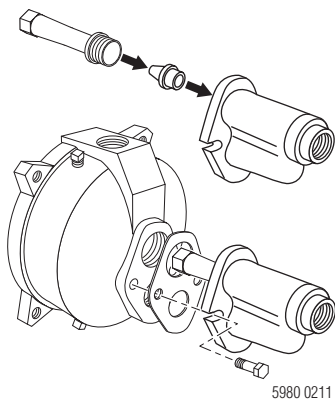

Figure 6: Mount Ejector – Shallow Well
Step 3. Install the ejector kit. Follow the instructions provided with the kit. Be sure to align the venturi with the top hole on the front of the pump (see Figure 6).
- Step 2. Install the ejector kit. Follow the instructions provided with the kit. Align the venturi with the top hole on the front of the pump (see Figure 6).